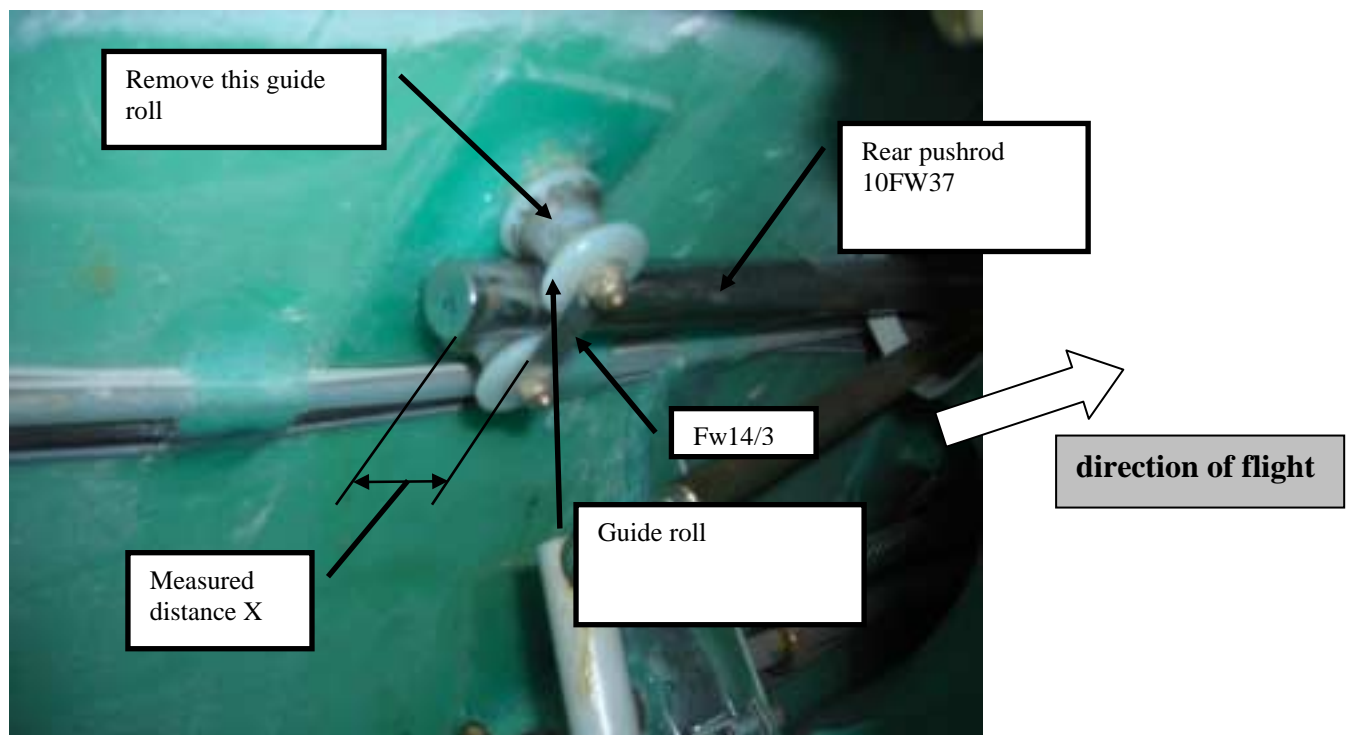

figure 9: left fuselage wall beside the landing gear box
3. Measure the distance from the end of the pushrod 10FW37 to the sheet FW14/3 (=X) (see figure 9). Make a note of the measurement.
4. Remove pushrod 10FW20, spring 2St22, the guide rollers of the pushrod 10FW37 and the pushrod 10FW37. (see figures 9 and 10)